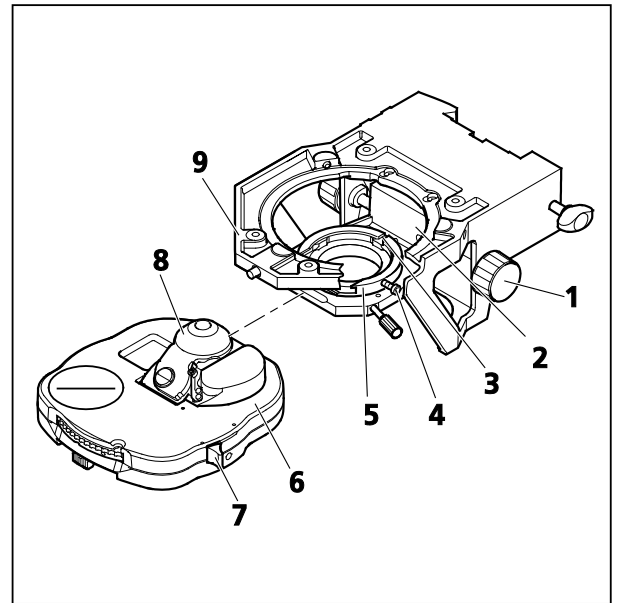

Fig. 25 Attaching the achromatic-aplanatic universal condenser
- Turn height control (Fig. 25/1) to lower condenser carrier (Fig. 25/2).
- Unscrew clamping screw (Fig. 25/4) (SW 1.5) slightly, if necessary.
- If available, swivel out the front lens (Fig. 25/8) of the condenser using lever (Fig. 25/7).
- Insert the condenser (Fig. 25/6) fully into the centering condenser mount (Fig. 25/5) between the condenser carrier (Fig. 25/2) and the stage carrier (Fig. 25/9). Turn the set screw on the bottom of the condenser towards the groove (Fig. 25/3).
- Tighten the clamping screw (Fig. 25/4) on the condenser mount. To avoid any damage to the condenser mount, do not apply excessive force.